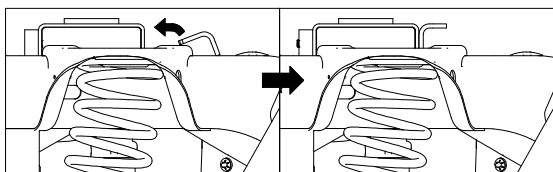
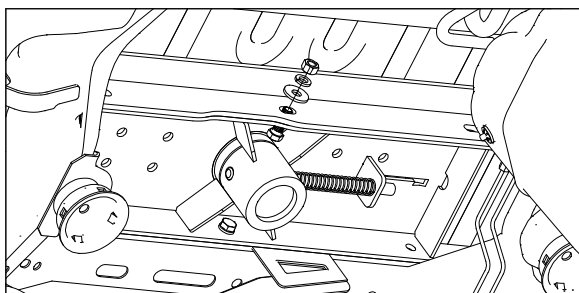

Figure C6: Cut-Away view of passenger side of frame (Bed not shown)
Figure C7: View looking up under truck bed from in front of the axle toward the rear of the truck. (Axle and exhaust not shown)
6. **Attach the front cross member.** Push the front cross member back against the center section. Center the cross member in the truck so that the slots in the front cross member will line up with the holes in the center. Using an adjustable wrench on the longer flange of the part rotate the front cross member so that the flange with the holes is vertical, see Figure C6. The vertical cross member flange has a profile cut into it that will allow it to be rotated while it is centered in the truck and located over the coil spring mounts on top of the frame. Make sure no part of the wiring harness gets pinched between the frame and the hitch parts. Attach the center and the cross member with a single 1/2" x 1-1/2" long bolt in the center hole only, as shown in Figure C7. The bolt head must be toward the rear of the truck. Add a flat washer, lock washer, and finish nut to the bolt and hand tighten. Do not fully tighten at this point.